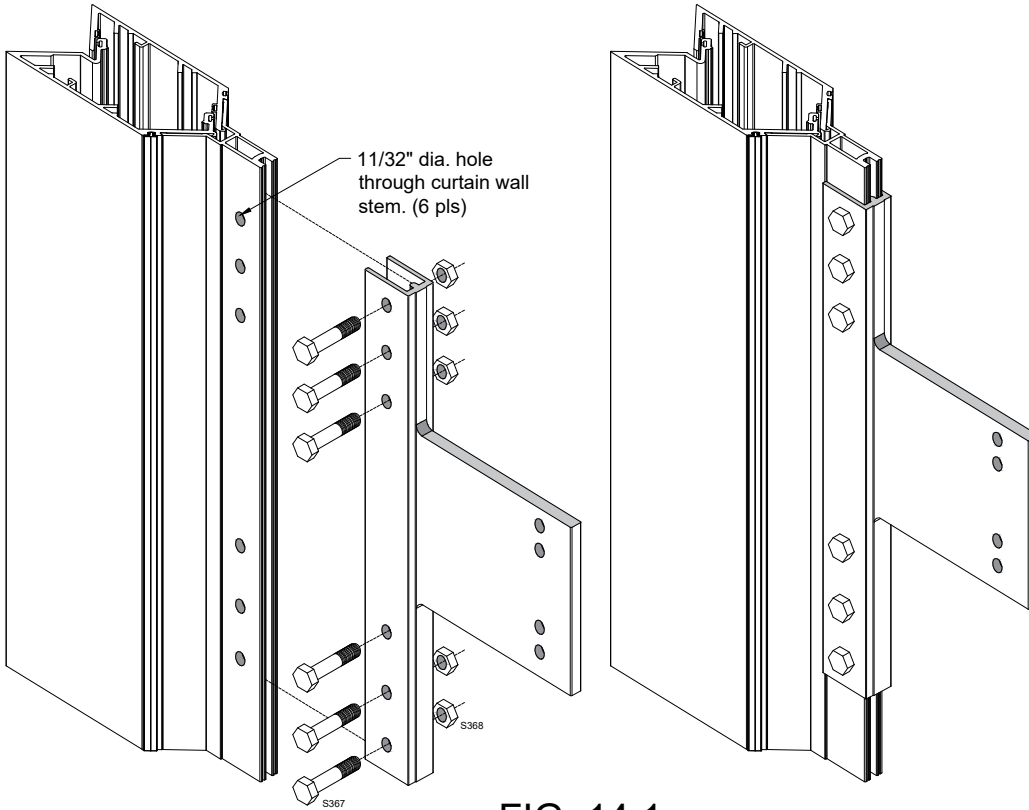

FIG. 14.1
- 1) Locate center line of sun shade bracket on vertical mullion, mark and drill 1 1/32" diameter clearance hole, FIG. 14.1.